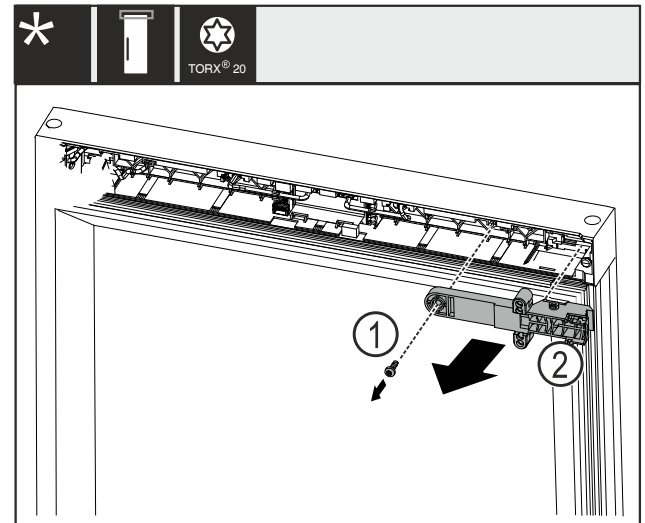

Fig. 20
- Remove the screw Fig. 20 (1).
- Remove the lock bracket retainer Fig. 20 (2).